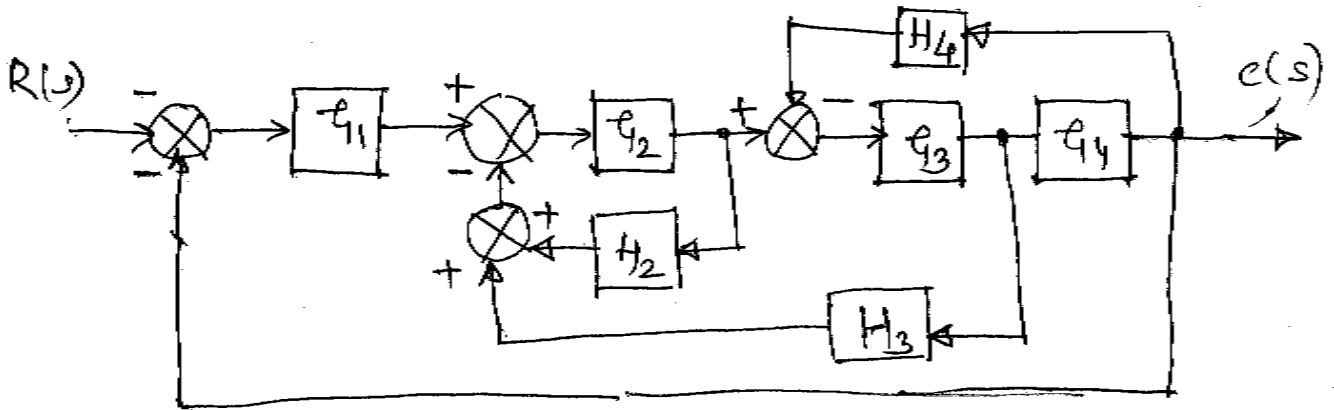

Fig. 2a
2. a) For the system shown in fig. 2a, draw the signal flow graph and deduce